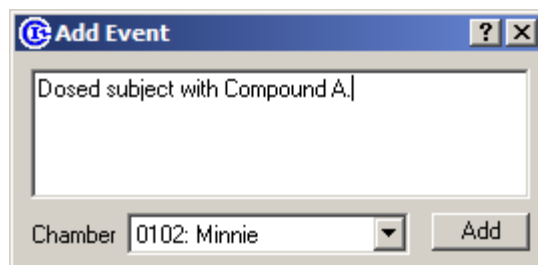

Figure 45 - Add Event Prompt
1. Click “Add Event” from the main “Experiment” OxyMAX menu to display the “Add Event” prompt as in Figure 45.